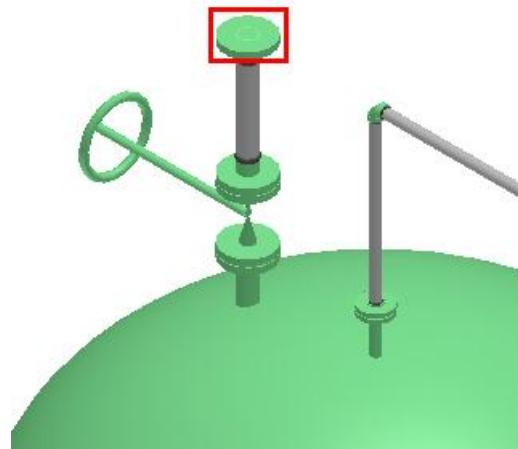

Figure 8. 15: Flange Placed on the Pipe
16. SP3D prompts you to select type of the component to place. Select the **Flange** option from the Type drop-down list on the **Insert Component** ribbon and click **Finish** on the **Insert Component** ribbon to accept the placement of the flange. After placing the flange, the view of the model should resemble Figure 8. 15.